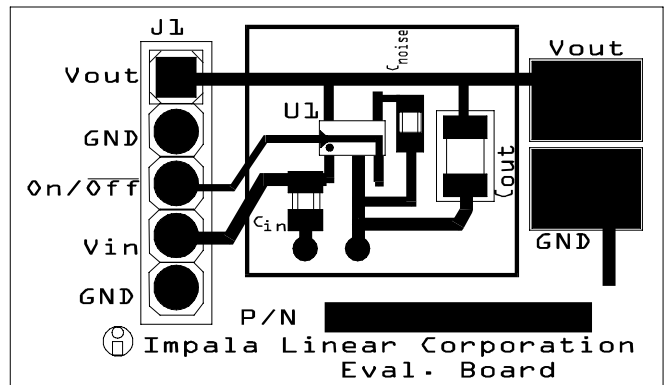

Figure 9: Recommended application circuit layout (not drawn to scale)
4. Maintain a separate "LOCAL GROUND" remote from the "GROUND PLANE" to ensure a quiet ground near the LDO. Figure 9 shows how this circuit can be translated into a PCB layout.